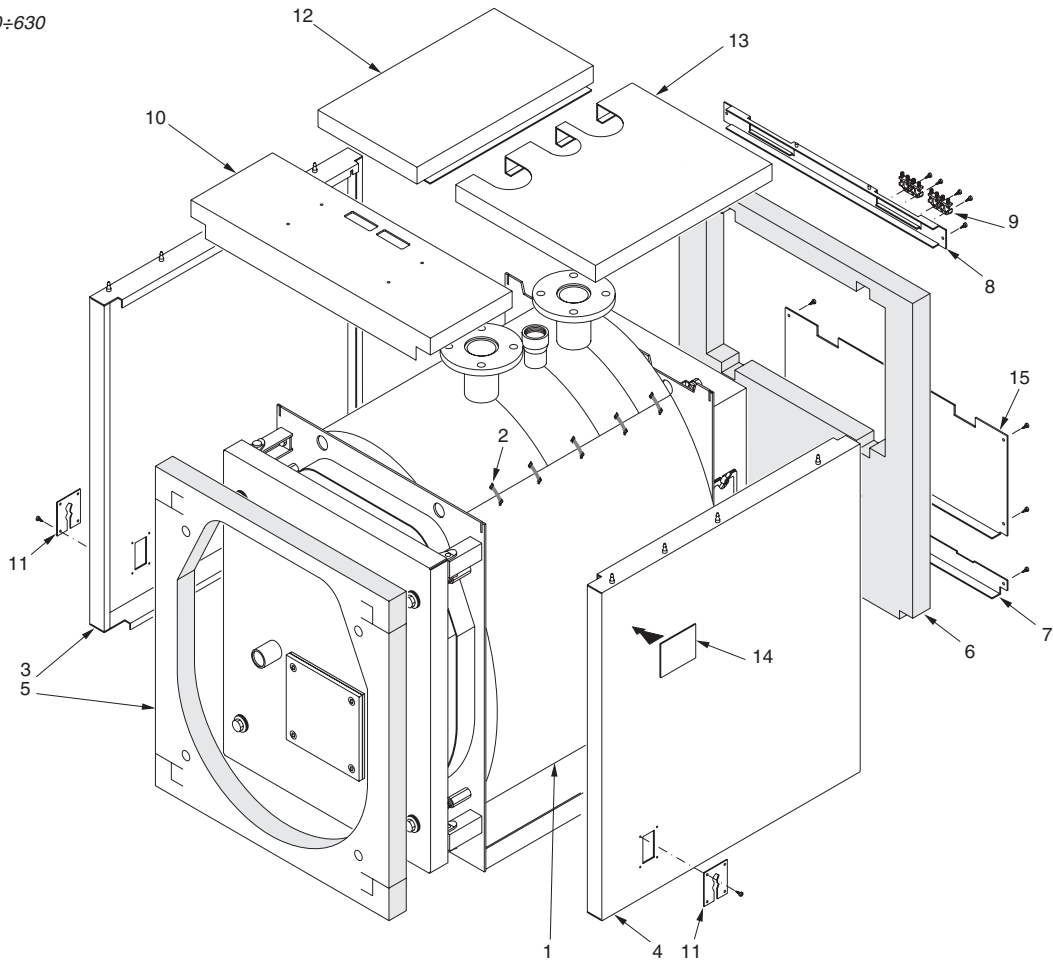
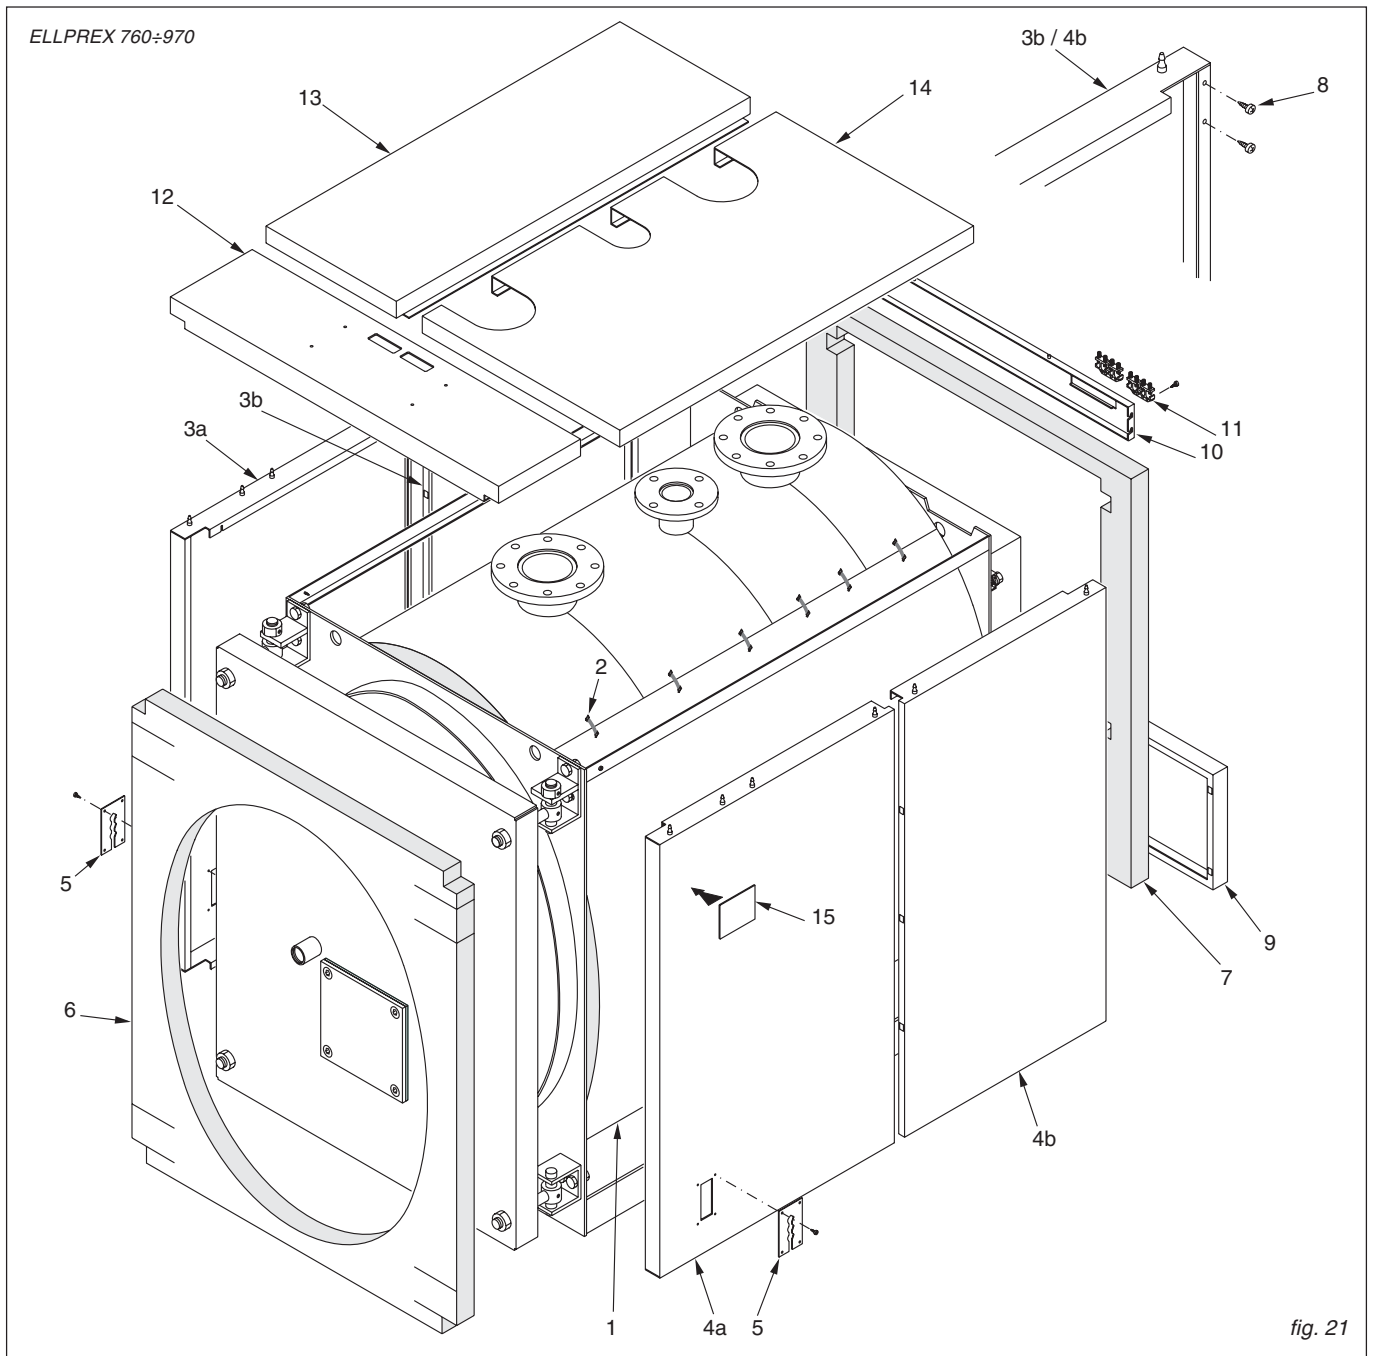

fig. 19
fig. 21
N.B. For the models **ELL 170 to ELL 510** (ref. fig. 19), the casing and the insulation are contained in one carton stamped:
N.B. For the model **ELL 630** (ref. fig. 19) and for the models **ELL 760 to ELL 2200** (ref. fig. 21 & 22), the casing and the insulation are contained in 3 cartons stamped:
Refer to diagram on fig. 19 for details
Mounting sequence (Ref. fig. 21)